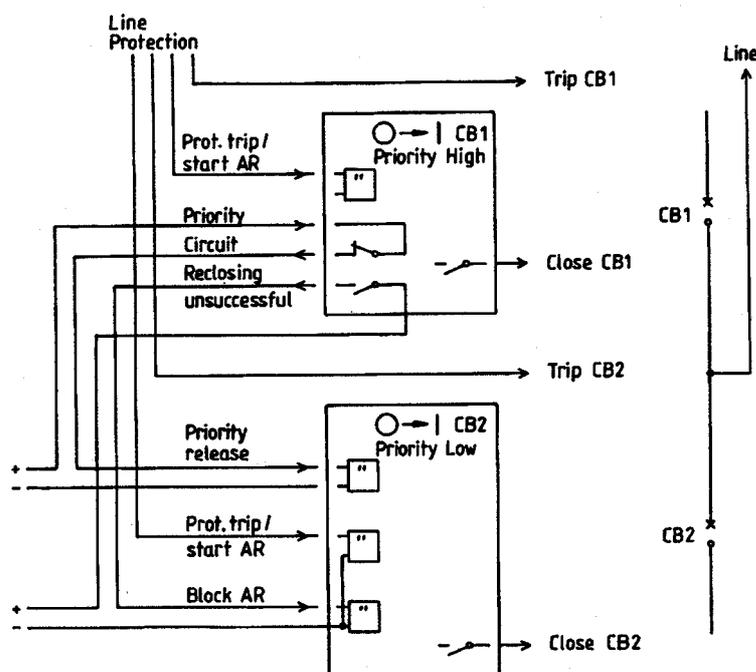

Fig. 4 Interconnection circuits in multi-breaker arrangements. Sequential reclosing, CBI before CB2
This input is used in multiple breaker arrangements, such as 1 and 1/2 breaker, 2 breakers and ring bus stations, when a line terminal is switched by two circuit breakers. A sequential reclosing is used to not unnecessarily stress the breakers and due to the limited breaker capacity of parallel breaking. One REXA is provided for each breaker and both units are interconnected by a "priority circuit" to give sequential reclosing of the breakers after a line fault. See Fig. 4. Thus, only one circuit breaker is reclosed and retripped at a permanent fault, reducing the circuit breaker wear. This input is enabled by setting switch no.2 at the relays front to pos. "Low priority".
A new trip after the last reclosing shot activates this output. It can be used for alarm or annunciation and to prevent auto-reclosing of a low priority breaker at a non-successful reclosing of the high priority breaker in a multi-breaker system, as shown in Fig. 4.
This output is intended for use in multi-CB arrangements, e.g. 1 1/2 CB. Normally closed, this output contact opens at the start of the auto-reclosing cycle and closes 1 s after the reclosing pulse. Used at the reclosing relay associated with the high priority breaker, it is connected to the "Priority Release" input of the reclosing relay associated with the low priority breaker. See Fig. 4.
One reclosing relay is used for each line circuit breaker. The two REXAs are interconnected according to Fig. 4. One circuit breaker is given the high priority and will reclose first, in this case CB1. The "Low priority" switch of REXA associated to CB2 is set in pos. 1 which enables the input "Priority release".